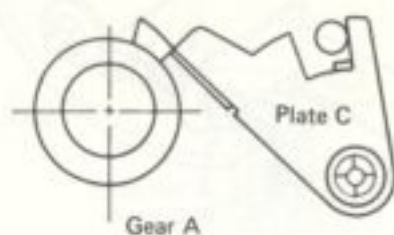

Fig. 40
4. Rod A presses plate B and when plate C engages raised portion of gear A (Fig. 40), stop tonearm.